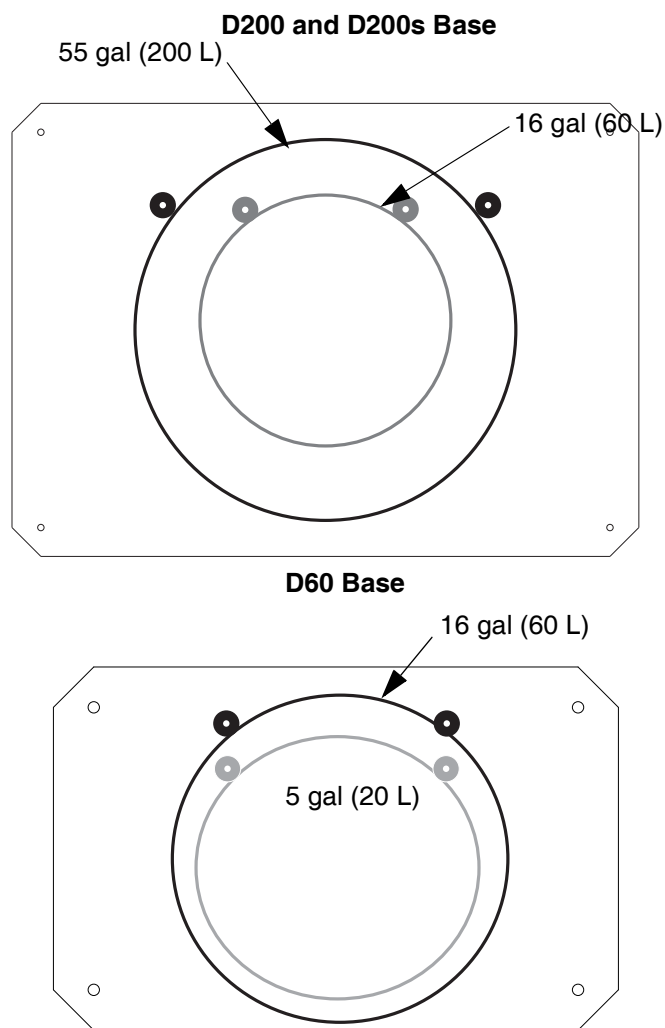

FIG. 12: Ram Base
1. Locate the correct set of mounting holes on the Ram Assembly base. See FIG. 12.